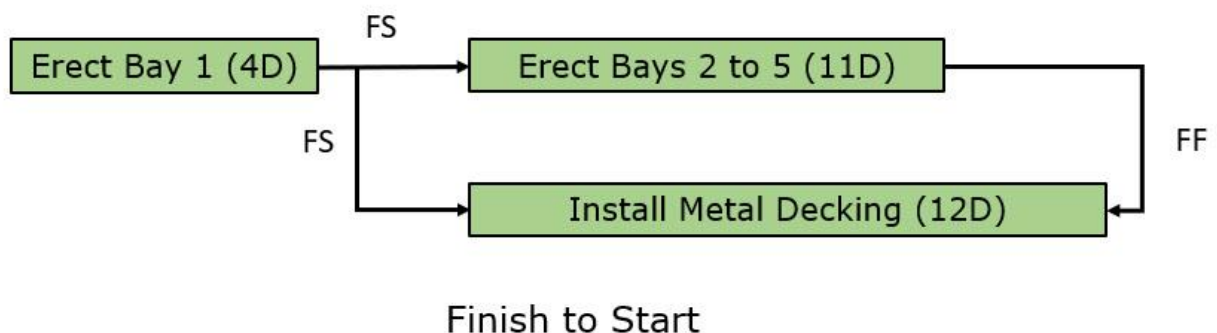

Figure 5
Replacing the vague SS relationship and positive lag with explicit tasks for ‘Erect Bay 1’ and ‘Erect Bays 2 to 5’ eliminates ambiguity. Connecting these with Finish-to-Start (FS) relationships transforms a hidden delay into a transparent, logic-driven path that accurately reflects field operations. Figure 5 displays the building construction schedule, isolating the erection of Bay 1 (the anchor bay) as a distinct task.